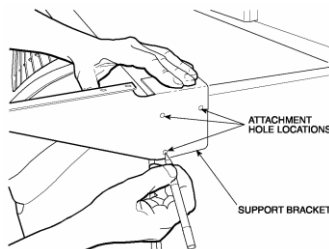

Fig. 3 — Location of Attachment Holes on Sleeve
2. Mark other 2 hole locations. See Fig. 3.